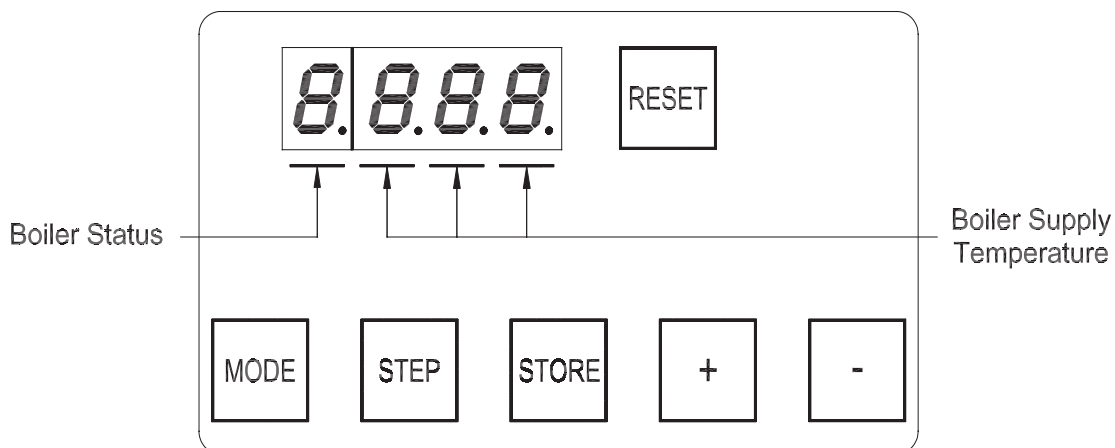

Figure 11.1: Normal Display In Standby Mode
Under normal conditions, the boiler is in standby mode and the display looks like that shown in Figure 11.1. The three digits to the right of the decimal point are the boiler’s supply temperature. The digit to the left of the decimal point is the boiler’s status code. A list of status codes, and their meanings, is shown in Table 11.3. Figure 11.2 is a map of the menu structure for the control panel. Push the mode key to move from one mode to the next. As you change modes, the mode you are entering is shown on the display:
- c) “*Stby*” for Standby Mode. Upon entering standby mode, “Stby” will briefly appear on the display and then the display will show the boiler’s status along with the supply temperature (Figure 11.1).
Boiler not responding to call for heat, Status code on display = "0" (see Figure 11.1)	<ul style="list-style-type: none">• Boiler is not seeing call for heat. Check thermostat or zone wiring for loose connection, miswiring, or defective thermostat/zone control.